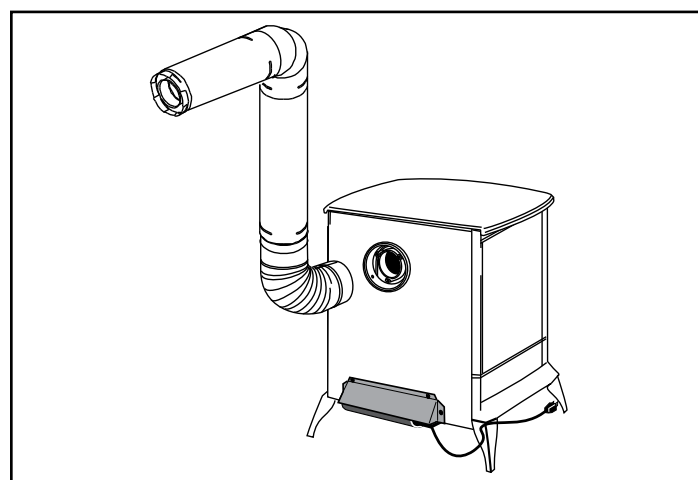

Figure 3.23
Step 2 - DirectVent Pro pipe, SLP pipe and fittings are designed with special twist-lock connections. To connect the venting system to the appliance flue outlet, a twist-lock appliance adaptor is built into the appliance at the factory. Assemble the desired combinations of black pipe sections and elbows to the appliance adapter with pipe seams oriented towards the wall or floor, as much out of view as possible, Figure 3.23.